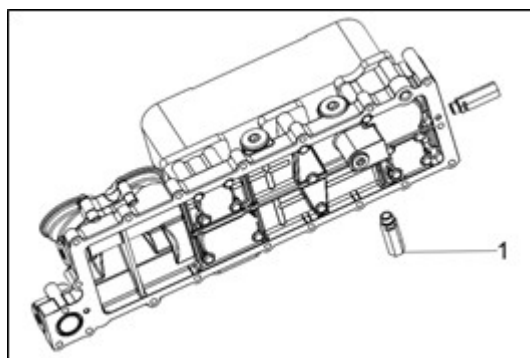

Figure 153
1. Remove the pressure-limiting valve (Fig 153, item 1) of the main oil passage.